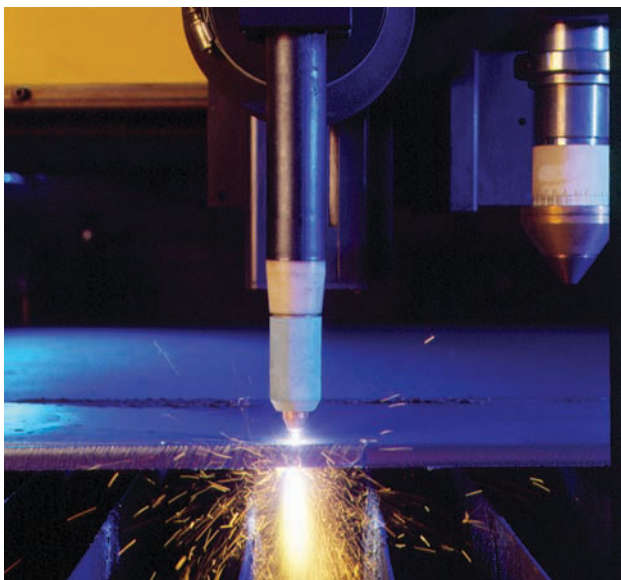

Figure 7.21 Torch height
- standoff distance—The closer the torch nozzle tip is to the work, the narrower the kerf will be, Figure 7.21.